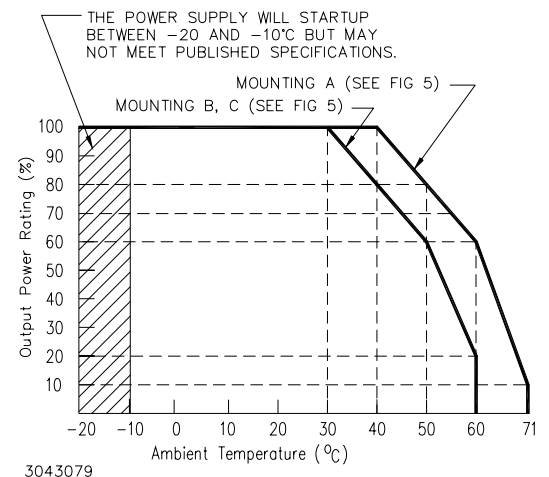

FIGURE 2. OUTPUT POWER VS. TEMPERATURE, KC MODELS (WITH COVER)
- (1) An overvoltage shuts down the output. Recover by recycling a-c input (30 second delay required before resetting).
- (2) Square type. After the cause of overcurrent is removed, output voltage recovers automatically.
- (3) See Figure 2 for temperature and input voltage rating.
- (4) Bandwidth 100MHz. Ripple and noise will be approximately 1.5 times these values in the operating temperature range -10 ~ 0°C. The ripple and noise values tabulated are valid when the output is derated as shown in figure 2 from 40 ~ 71°C.
- (5) Used for remote programming of output voltage. See Section IV OPERATION, REMOTE VOLTAGE PROGRAMMING.
- (6) Specifications are identical for models either K or KC suffix